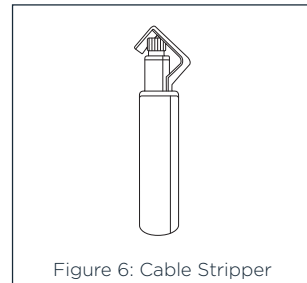
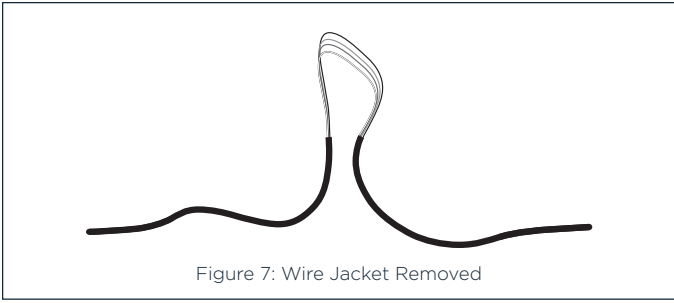
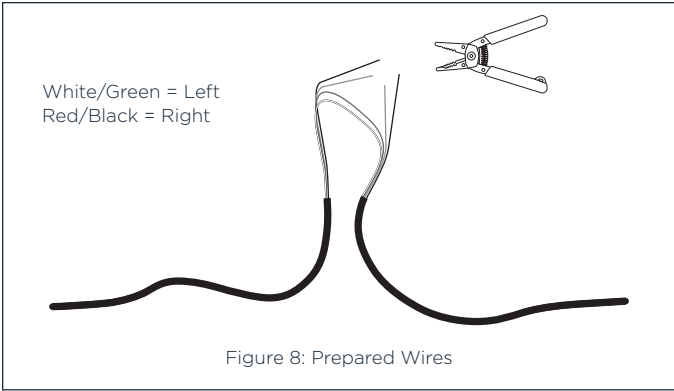

Figure 6: Cable Stripper
Figure 7: Wire Jacket Removed
Figure 8: Prepared Wires
2. Using a radial cable stripper (Figure 6), prepare the wires to be connected by stripping back the outer jacket to expose the four individual wires (Figure 7). Assuming the first speaker is designated as the Left channel, cut the Left (+) and Left (-) wires (typically white/green) (Figure 8). Combine the positive (+) wires from the amplifier, the speaker, and the line running to the next speaker. Using the included silicone filled wire nuts, twist the wires together ensuring that no copper is exposed. Repeat the same process for the negative (-) wires. The other two wires should be left intact, as they will be used at the next speaker.